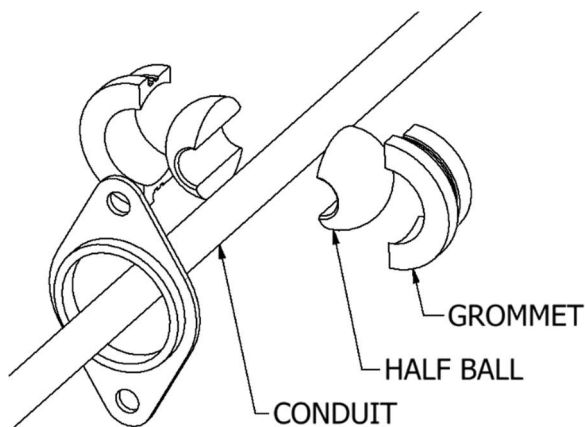

Figure 1- Control Installation through Firewall
Beechcraft Bonanza aircraft utilize Vernier and quadrant style engine controls. These controls are mounted to the instrument panel between the pilot and co-pilot, routed through the firewall into the engine bay, and ultimately secured to the throttle, mixture, or propeller valve as required. The Beechcraft Bonanza aircraft subject to this ICA utilize two (2) half balls to create the seal around the engine control conduit at the firewall and inserted into the mounting flange and grommet, as shown in **Figure 1**. High temperature clamps are also utilized for the routing of the engine control. The McFarlane series of controls do not have the same outer diameter conduit as the TC'd assemblies. The half balls and clamps attached on the outer diameter of the conduit; therefore, the use of a McFarlane engine control will require replacement with components of the appropriate size in original locations.
After removing the Beechcraft engine control, remove the old half ball (P/N 112413-8) from the grommet in the firewall seal and the mounting clamps (P/N: MS21919WDG6 & PP561DS4), as shown in **Figure 1**. When installing the McFarlane engine control, install the McFarlane half ball (P/N: 7391-0.300) into the firewall grommet to ensure a tight seal around the conduit. Use the supplied high temperature clamps (P/N: MS21919WCJ5) when routing the new McFarlane engine control to the appropriate connection point, per the applicable Beechcraft Model Service Manual. The McFarlane provided installation components utilize the same mating hardware (bolts, nuts, washers, etc) for installation.